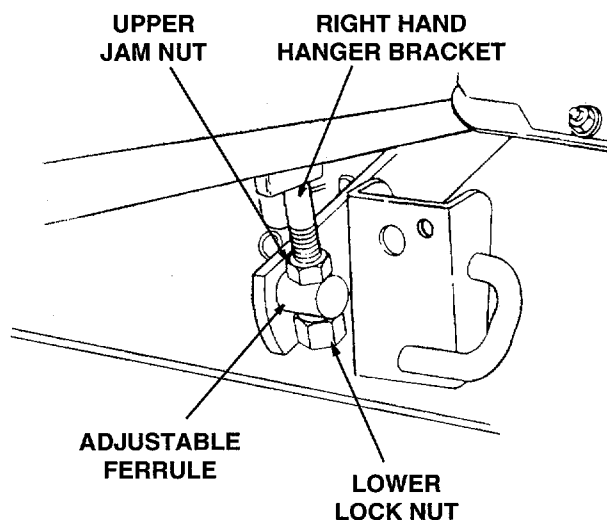

Figure 31
8. Side-to-side leveling is obtained utilizing the adjustment ferrule and right hand hanger bracket (Refer to Figure 31).
9. Loosen the upper jam nut on the hanger bracket and turn away from the adjustment ferrule. Turn the lower lock nut upward (tighten) on the threads of the hanger bracket to raise the right side of the mower deck. Turn the lock nut down (loosen) on the threads of the hanger bracket to lower the right side of the mower deck (Refer to Figure 31).